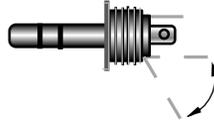

Figure 1
- Break off the ground tab of the plug (longest of the 3 terminals) by flexing it a few times (Figure 1).